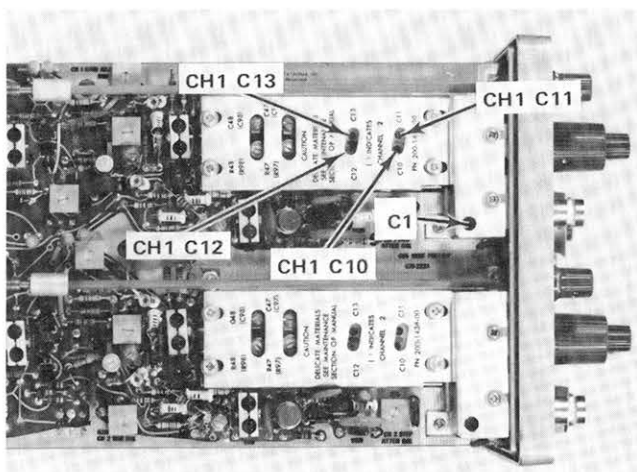

Fig. 5-19. Location of CH 1 volts/div compensation adjustments.
e. ADJUST—C1 (see Fig. 5-19) with the low-capacitance screwdriver for best flat-top waveform.
h. ADJUST—Channel 1 C13 (see Fig. 5-19) for best flat-top waveform, and Channel 1 C12 for the best corner with the low-capacitance screwdriver.
m. ADJUST—Channel 1 C11 (see Fig. 5-19) for best flat-top waveform, and Channel 1 C10 for the best corner, with the low-capacitance screwdriver.